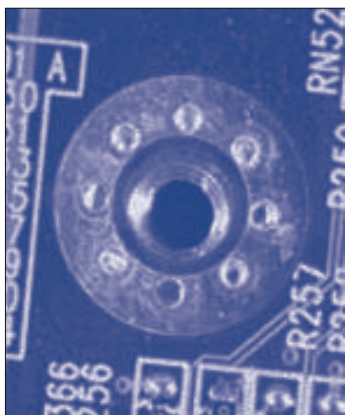

Figure 3
10) In order to work out correctly where these should go. Locate on your motherboard all the screw holes as shown in Figure 3. Use the motherboard as a guide to the correct place for the standoff's to go. If need be put the motherboard in to your case and once you can see remove it again and fit a standoff at each location. Badly positioned standoffs can short and damage your bundle so it is best to double check.